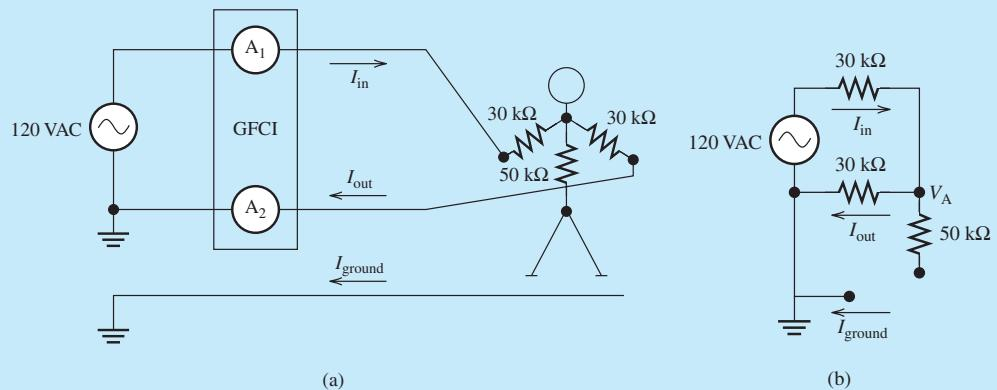

FIGURE 15.21 (a) Figure for Example 15.14; (b) equivalent circuit.
An individual comes into contact with the incoming and return conductors of a GFCI protected outlet, as shown in Figure 15.21. He is wearing rubber boots, which isolate his feet from the ground. (a) Find the currents I_{in} , I_{out} , and I_{ground} . (b) Does the GFCI trip?
- a. The circuit can be modeled as shown in Figure 15.21(b). In this situation, because the person is wearing rubber shoes, and the resistance of those shoes is almost infinity, no current flows through the $50\text{-k}\Omega$ resistor. Applying KVL: